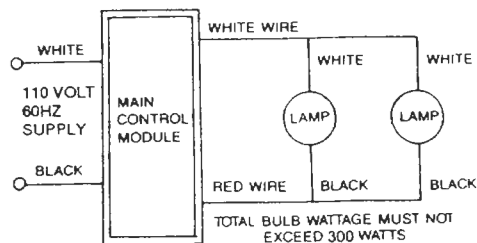
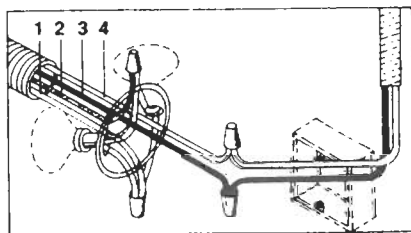

FIG 2
FIG 3
3. Refer to the diagram shown in Fig 2 and the wiring diagram shown in Fig 3 for electrical connections. Follow this step by step procedure for wiring the fixture. Wiring the unit incorrectly may damage the electronic components inside the control module and will void all warranty claims.